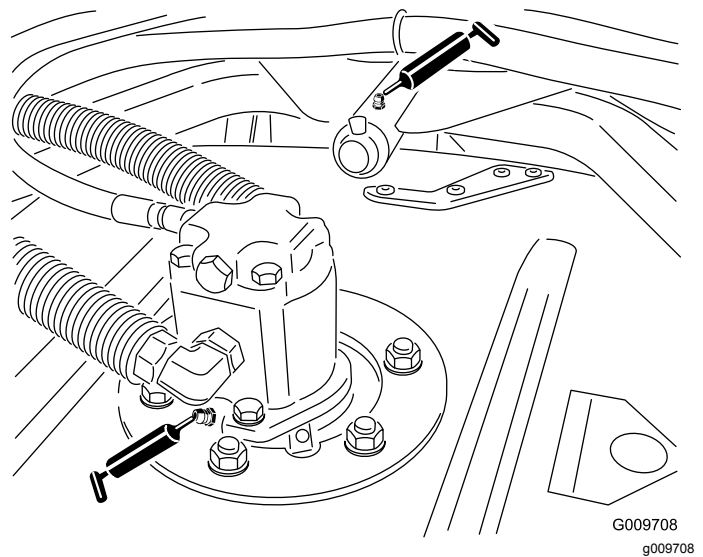

Figure 24
- Cutting unit spindle shaft bearings (1 per cutting unit) (Figure 24)
- Cutting unit carrier arm bushings (1 per cutting unit) (Figure 24)